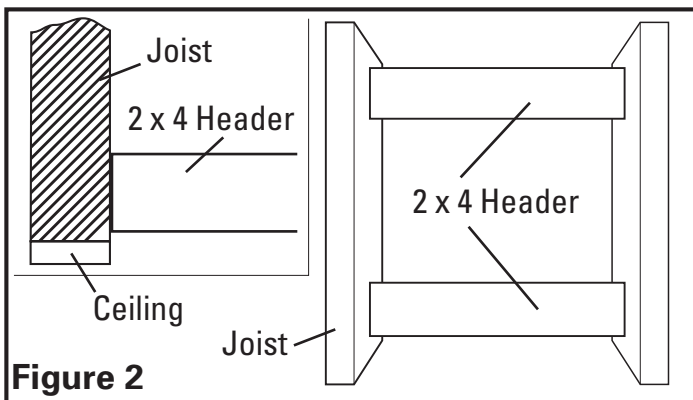
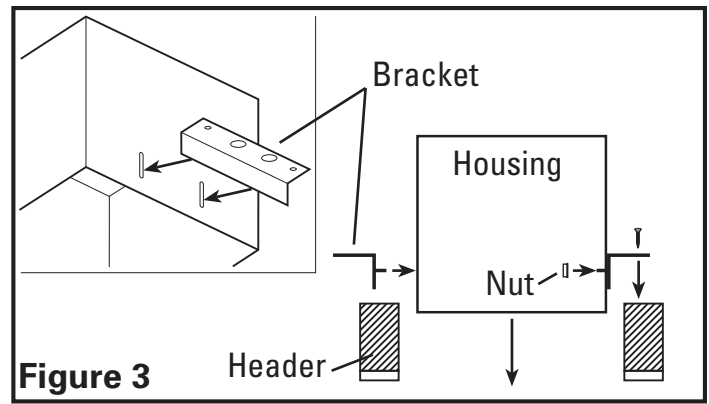

Figure 2
Figure 3
1. Installation on 24" Centers Joists or Larger than 2x6 Joists on 16" Centers: Install two - 2x4 headers (not included) between the joists (Figure 2). Install the mounting brackets through the top set of slots on the fan housing and secure in place with the four included #10-32 nuts as shown. Position the fan housing between the headers and secure the mounting brackets with screws or nails (not included) to the header. Adjust the height of the housing so that it is flush with the finished ceiling by loosening the mounting bracket nuts and sliding the housing up or down on the bracket. Fully tighten all four nuts to secure the housing in place (Figure 3).